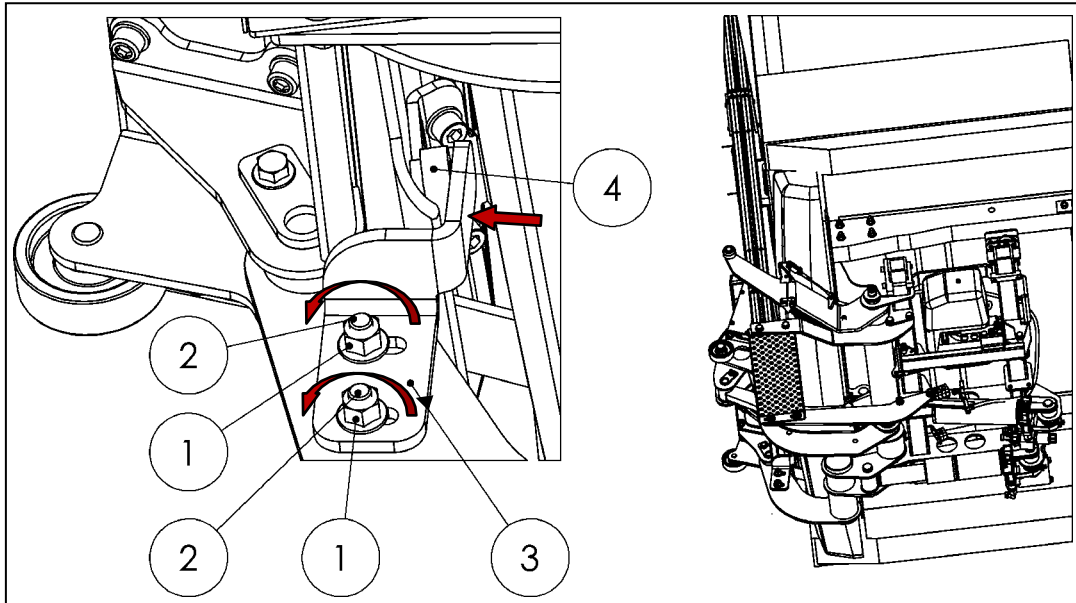

Figure 85
- Loosen the nuts (1) and bolts (2) on the stopper (3).
- Press the stopper (3) firmly against the plastic disk (4) (see Fig. 85).